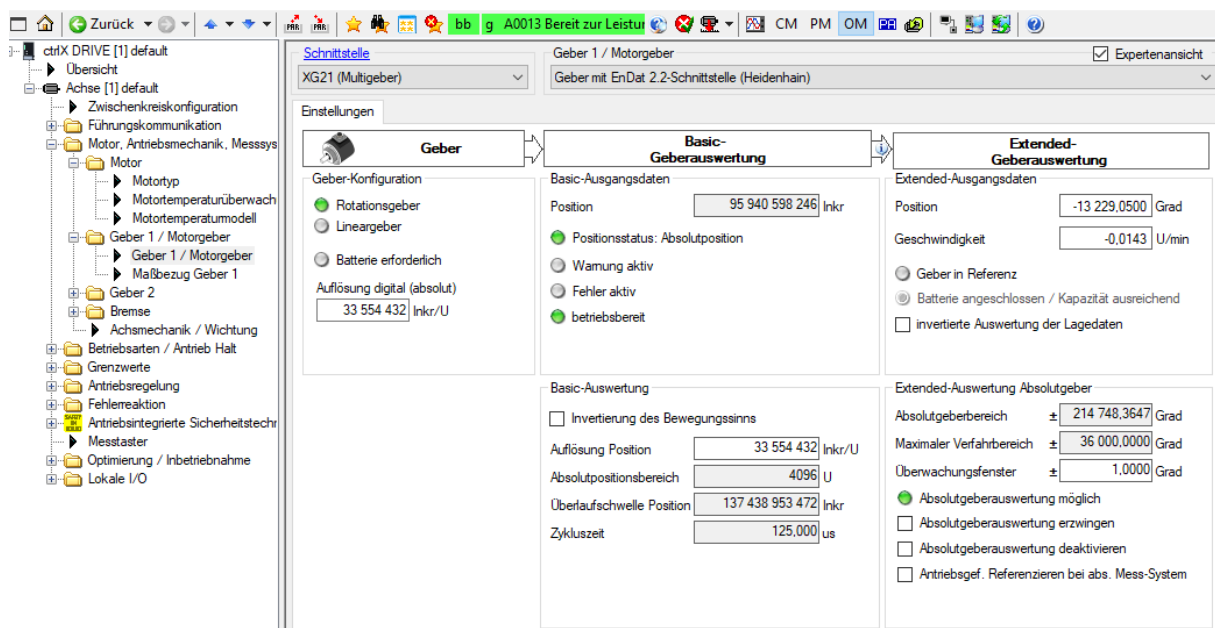

Fig. 171: Display of the "Expert view" of the ctrlX DRIVE Engineering encoder dialog for extended configuration and information options
- With encoders to be evaluated in absolute form, "drive-controlled homing" is also possible in "AF". However, this option has to be enabled (this generally applies to all encoder types). See also Fig. 171 and .